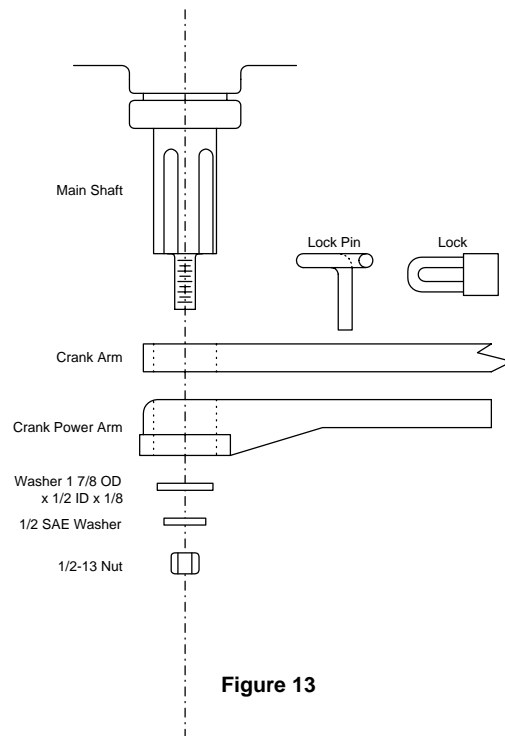

Figure 13
1. Attach the crank arm and crank power arm to the operator output shaft using the supplied hardware (Figure 13). Position the arm so that it is pointing towards the gate.